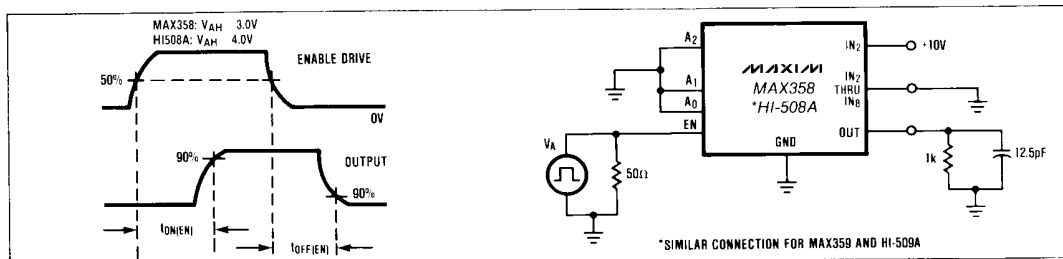

Figure 3. Enable Delay ($t_{ON(EN)}, t_{OFF(EN)}$)
| Enable Delay (ON) | $t_{ON(EN)}$ | (Figure 3) | +25°C Full | 300 | 500 | 300 | 1000 | | | ns |
| Enable Delay (OFF) | $t_{OFF(EN)}$ | (Figure 3) | +25°C Full | 300 | 500 | 300 | 1000 | | | ns |